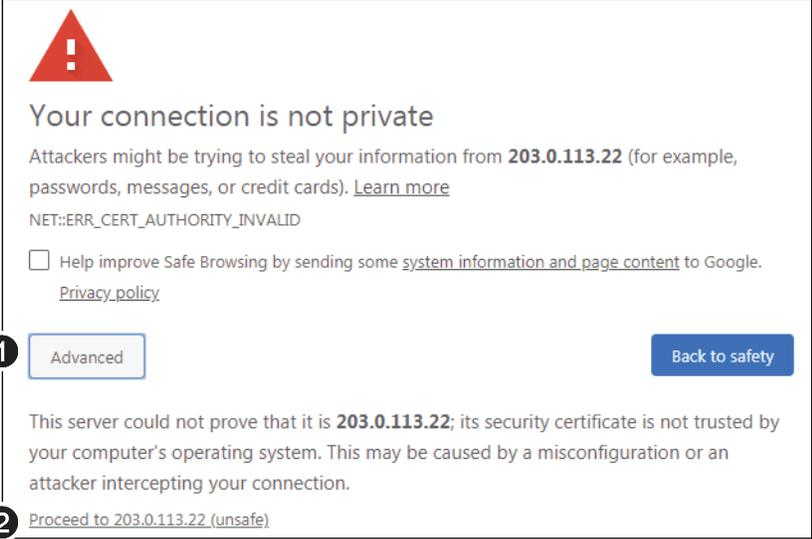

Figure 9. Privacy Notification, Chrome Browser
- If you do not have the trusted SSL Certificate, the browser displays a privacy notification (see figure 9). Continue to the login dialog box as follows: